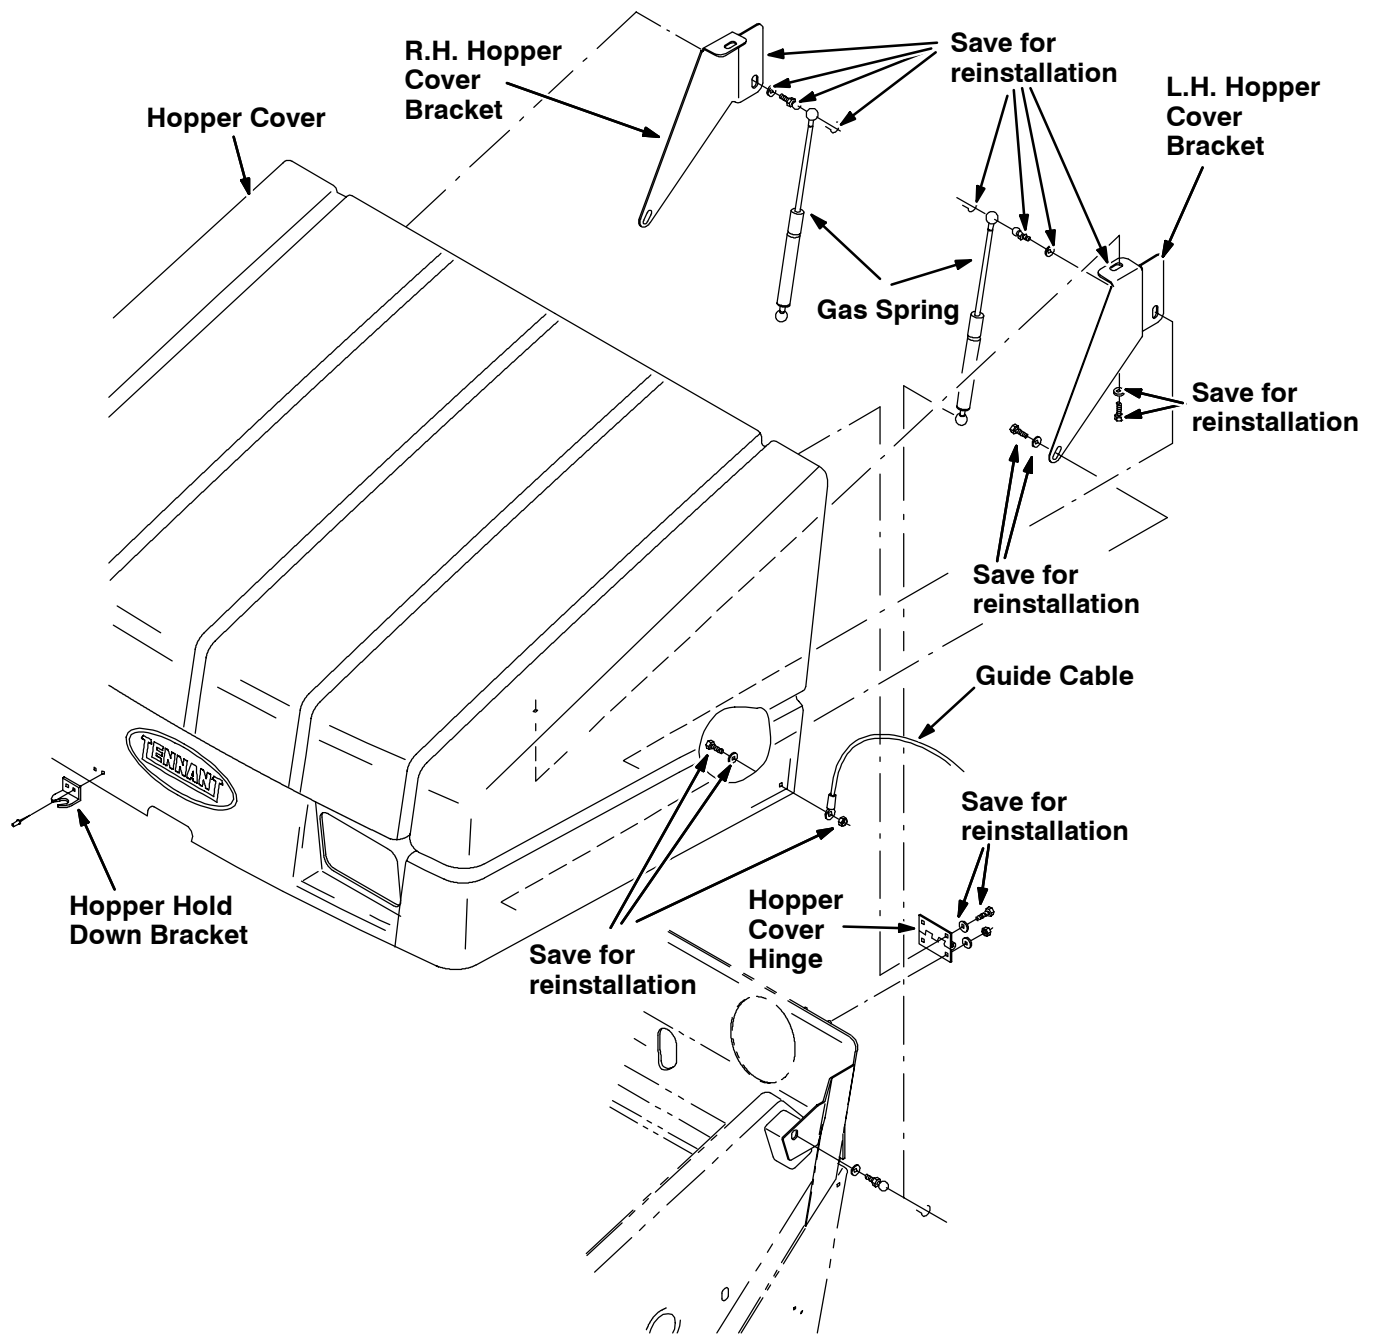

FIG. 1 - Hopper Cover Replacement
(Refer to FIG. 1 and 2)
2. Remove the hardware connecting the guide cable to the hopper cover. Save for reinstallation. (Refer to FIG.1)
3. Remove Gas spring safety clips, while an assistant is holding up the hopper cover. Save for reinstallation. (Refer to FIG.1)
4. Lower the hopper cover, and remove the upper hinge hardware to separate the hopper cover from the hinge. Save for reinstallation. (Refer to FIG.1)
6. Remove mounting hardware and hopper cover brackets from existing hopper cover. Save for reinstallation. (Refer to FIG.1)
7. Remove hopper hold down bracket. Save for reinstallation. (Refer to FIG.1)